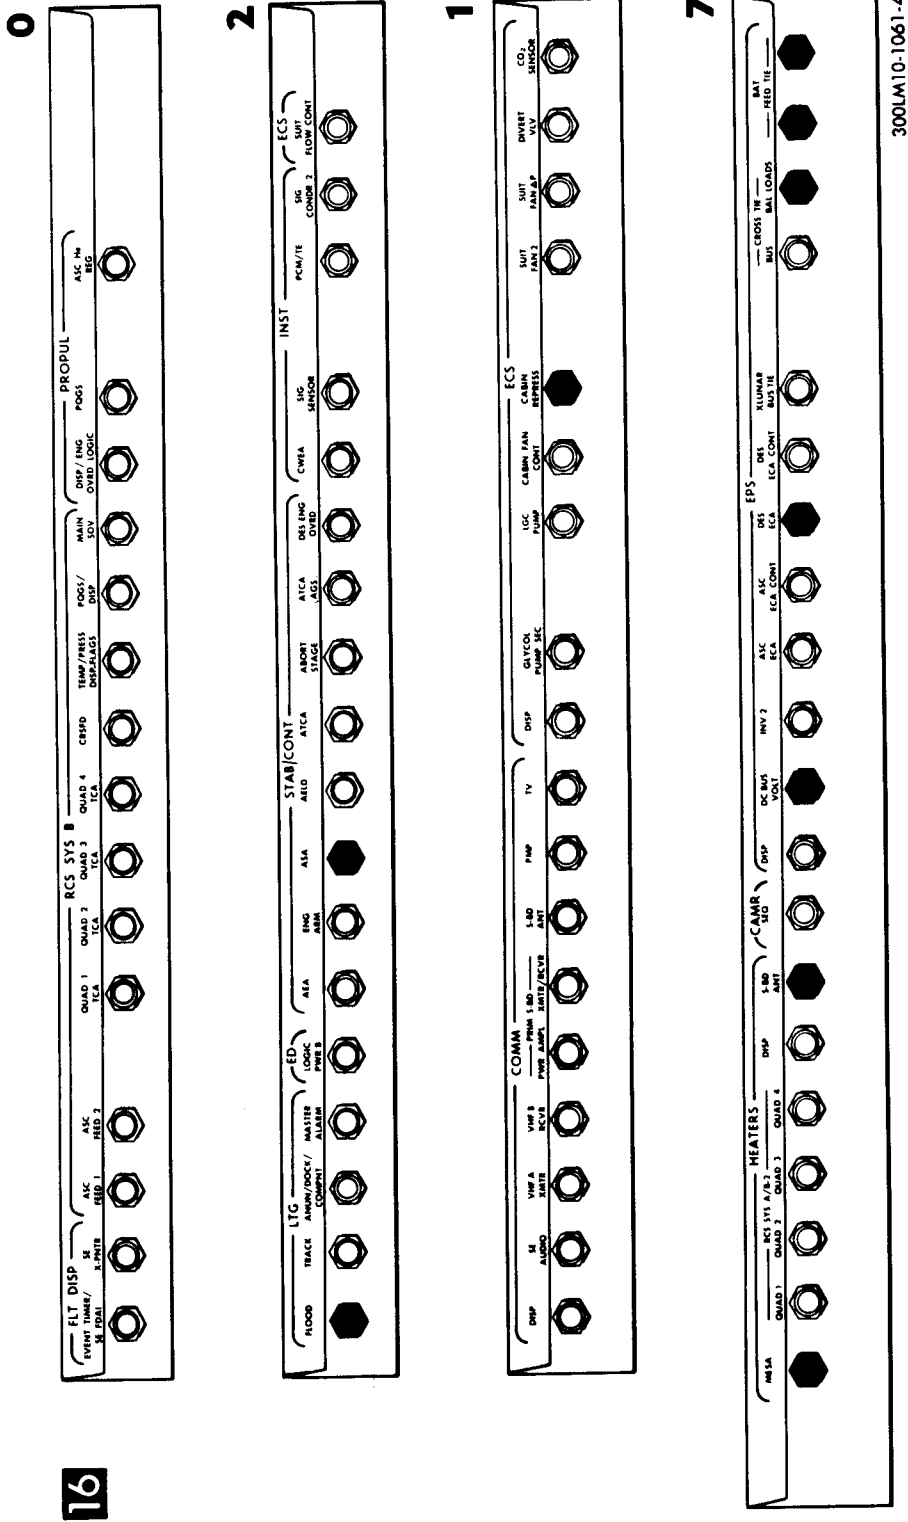

Figure 4-4. Initial Entry Status Check (Panel 16)
<p>4.2 SUBSYSTEM ACTIVATION</p> <p>Subsystem activation consists of tasks performed by the crew to turn on & check the LM subsystems. Sticky talkbacks may be loosened by tapping panel.</p> <p>4.2.1 INITIAL ENTRY STATUS CHECK</p> <p>0. Verify that LCG accumulator bob is not bottomed.</p> <p>11 1. All cb's - open, except: CB HTR: RNDZ RDR STBY - close LDG RDR - close CB LTG: ANUN/DOCK/COMPNT - close CB PGNS: IMU STBY - close CB EPS: BAT FEED TIE (2) - close CROSS TIE BAL LOADS - close DES ECA - close DC BUS VOLT - close Verify cb status per Initial Entry Status Check</p> <p>16 2. All cb's - open, except: CB LTG: FLOOD - close CB S/C: ASA - close CB ECS: CABIN REPRESS - close CB HTR: MESA - close S BD ANT - close CB EPS: DC BUS VOLT - close DES ECA - close CROSS TIE BAL LOADS - close BAT FEED TIE (2) - close Verify cb status per Initial Entry Status Check</p> <p>3. Request CMP to initiate power transfer to LM via docking tunnel electrical umbilicals.</p>	<p>Assumption: Initial Intravehicular Transfer to LM (para 4.14.1) and Enable LM Cabin Repressurization System (para 4.14.5) have been performed.</p> <p>See figure 4-3.</p> <p>See figure 4-4.</p> <p>All indicator power failure lights, except RNG/ALT (9) - on when on LM power off when on CSM power X-pointer (2) THRUST MPS: PRESS RCS: PRESS ECS: PRESS GLYCOL QUANTITY</p>